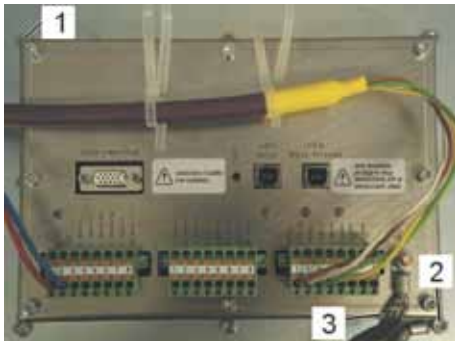

Fig. 80: Indication unit in control room
1. Fix the Indication unit on the control panel in a suitable position with screws on its back (Fig. 80/1).
2. Remove possible colour on the back of the control panel to guarantee a metallic bright surface for assembling the GND strap (Fig. 80/2).
3. Screw the GND strap (Fig. 80/3) onto the back of the control panel.